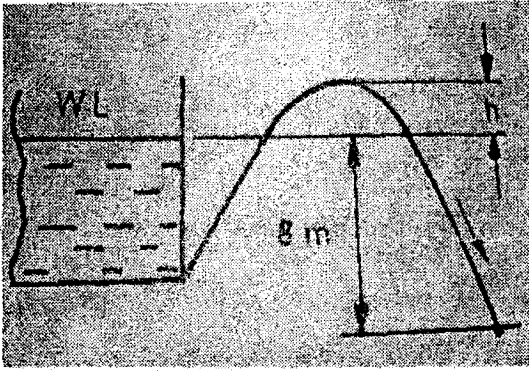

Figure 5
- (c) A pipe line is set up to draw water from a reservoir. The pipe line has to go over a barrier which is above the water level as shown in figure 5. The outlet is 8 m below water level. Determine the maximum height of the barrier, if the pressure head at this point should not fall below 1.0 m of water to avoid cavitation. Take atmospheric pressure head as 10.3 m. (3)